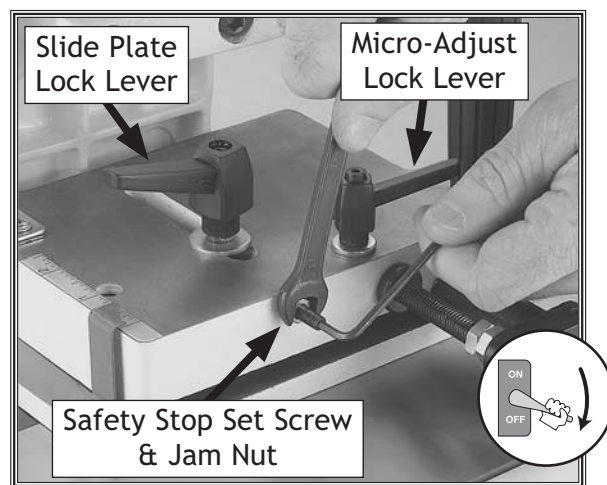

Figure 14. Adjusting the side support safety set screw.
4. Loosen the jam nut on the safety stop set screw shown in **Figure 14**, then back the set screw out so that it will not interfere with adjustments.